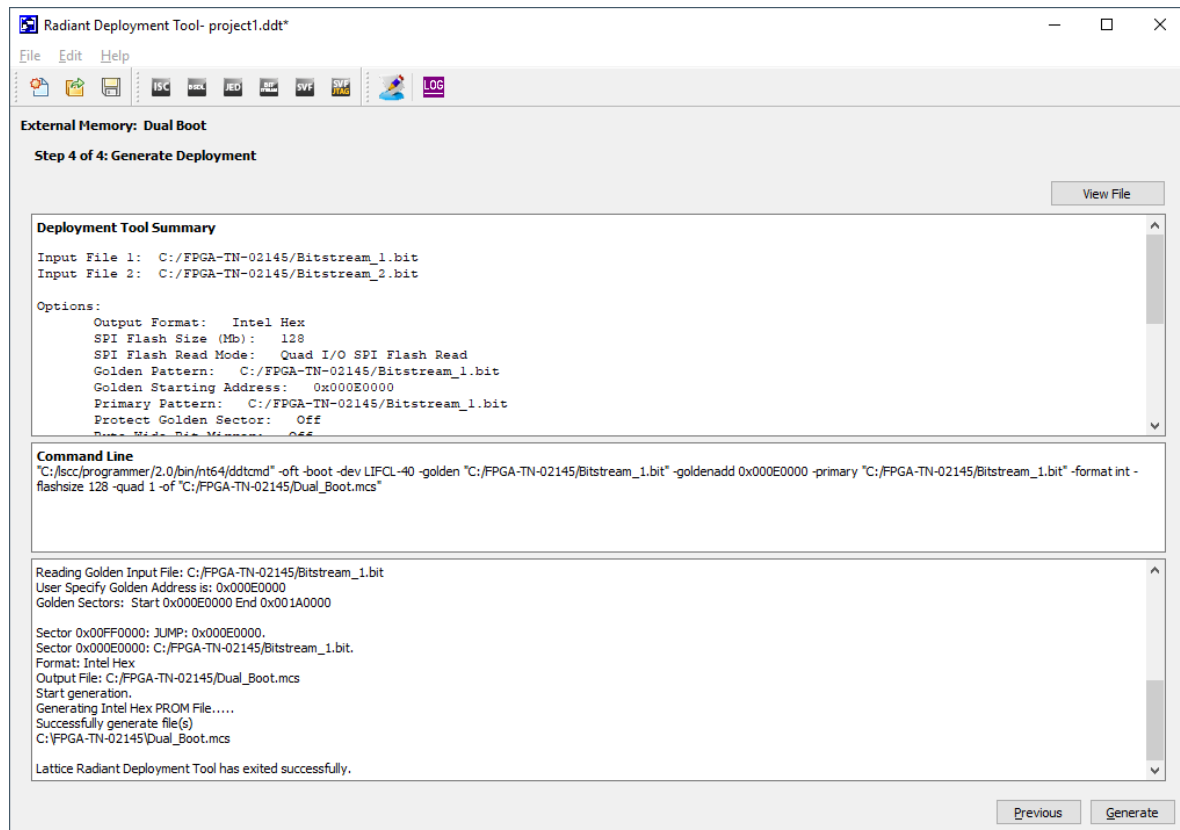

Figure 6.5. Generate Deployment Window
Step 4 of 4: Generate Deployment window (Figure 6.5)